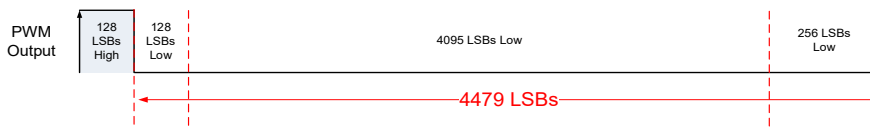
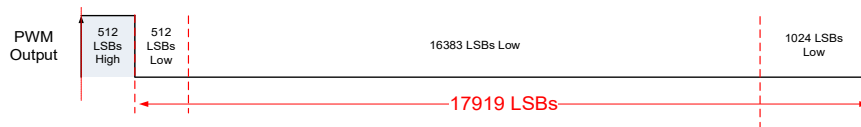

Figure 34. 12-bit PWM signal in diagnostics low mode
Figure 36. 14-bit PWM signal in diagnostics low mode
- Diagnostic low mode, see Figure 34 and Figure 36